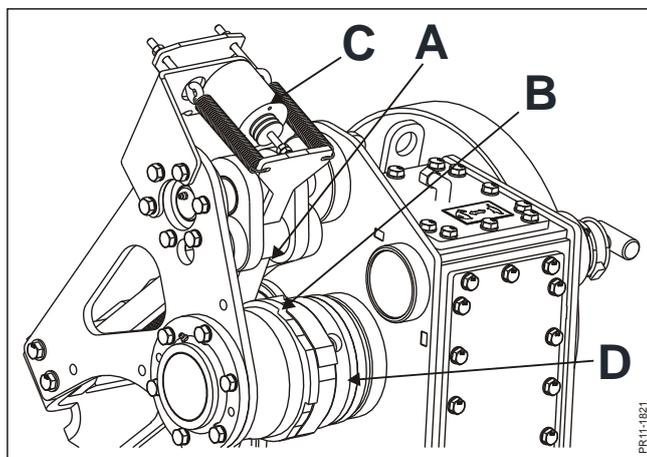

Fig. 5-8
**Fig. 5-8** The stop system of the metal detector is integrated in the transmission for the feed intake system. The system consists of a pawl **A** and a ratchet wheel **B** and is activated by a coil **C**. The system is activated when metal is registered in the feed intake section and the coil gets a signal from the electronics which brings the pawl **A** in mesh with the ratchet wheel **B** and the feed intake section is blocked.